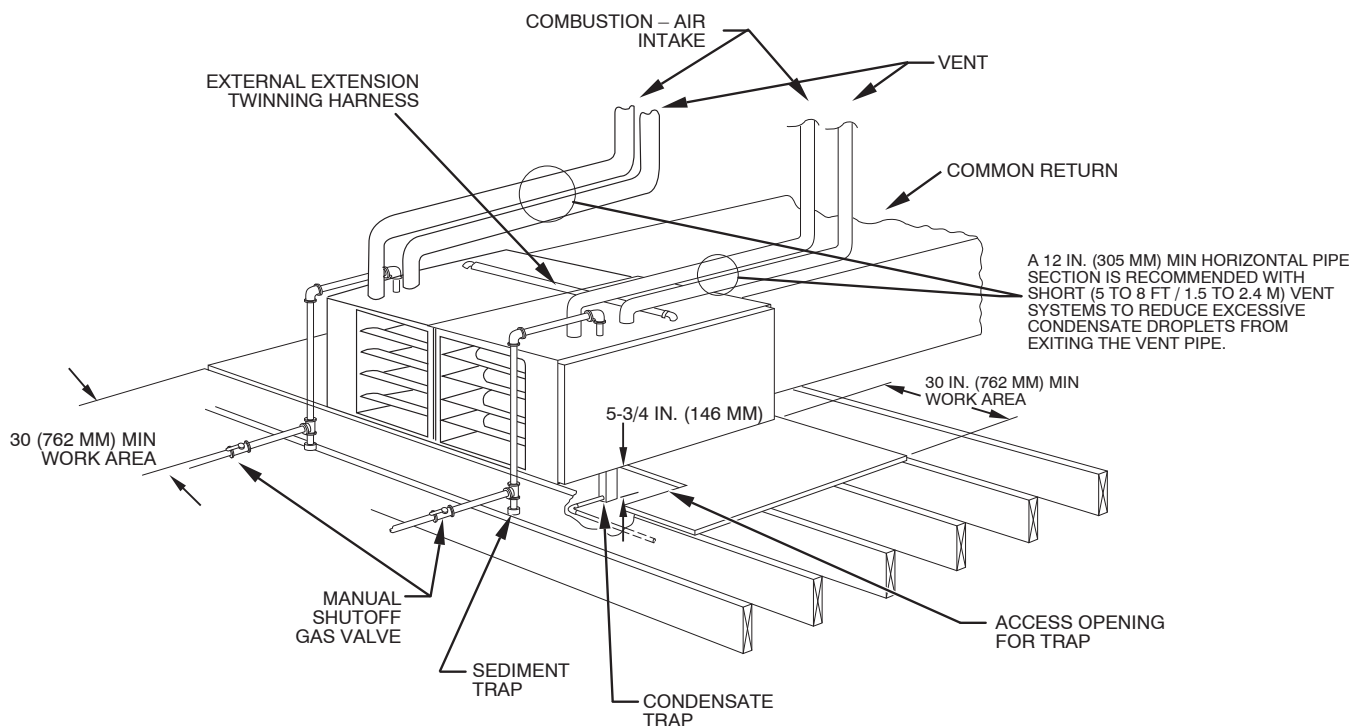

Fig. 28 - Attic Installation on a Platform
1. Construct a platform from 3/4-in. (nominal plywood), extending out 30 inches (762 mm) from the front of each furnace. (See Fig. 28.)